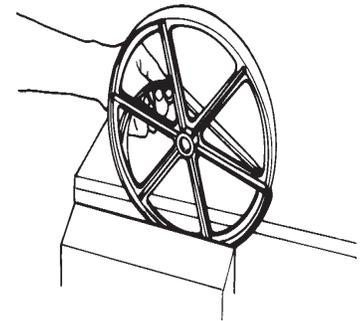
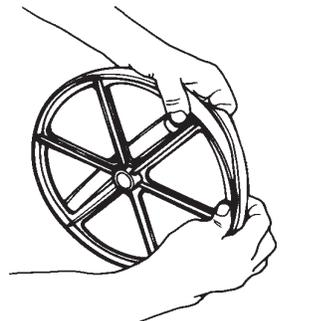

Fig. 12
Fig. 13
9. Remove the wheel from the vise and work the new tire onto the bottom half of the wheel. Make sure that you place the rough surface of the tire to the wheel. The glue adheres more securely to the rough side. Re-clamp in the vise. (See Figure 12.) Work the top half of the tire onto the wheel. (See Figure 13.)